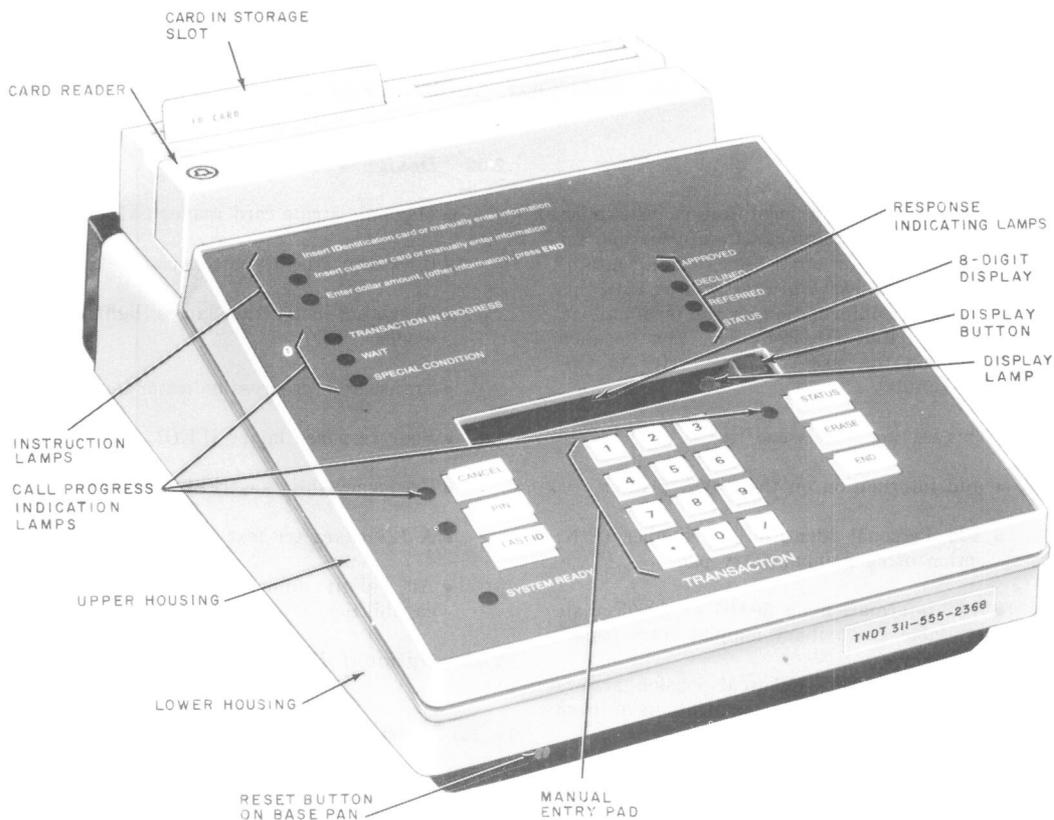

Fig. 1—5000A Transaction III Terminal Set
2.01 The 5000A Transaction III terminal set (Fig. 1) satisfies the interface requirements of the polled access circuits of the Transaction Network Service. It may be used to perform transactions such as credit authorization, check verification, inventory control, or electronic funds transfer.
A. Personal Identification Number (PIN) Provided from Manual Entry Pad on 5000A Terminal Set (Fig. 1)